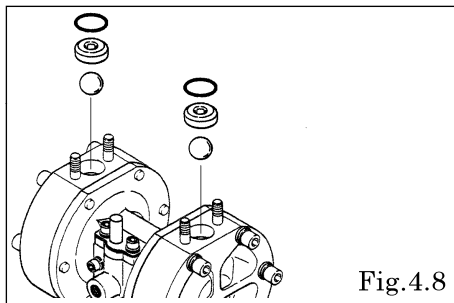

Fig.4.8
- Remove the O ring (excluded BPC, BPN), ball and valve seat. [Fig.4.8]